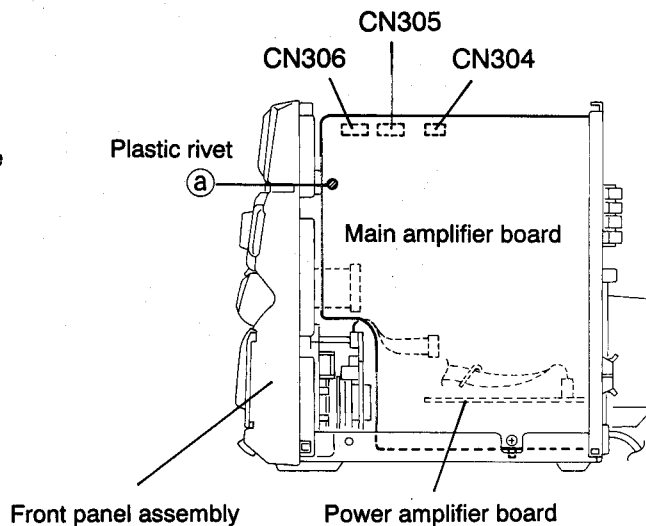

Fig.5-4
5. Remove the plastic rivet ① fastening the main amplifier board and front panel assembly to the left side panel of the main unit.(See Fig. 5-4)